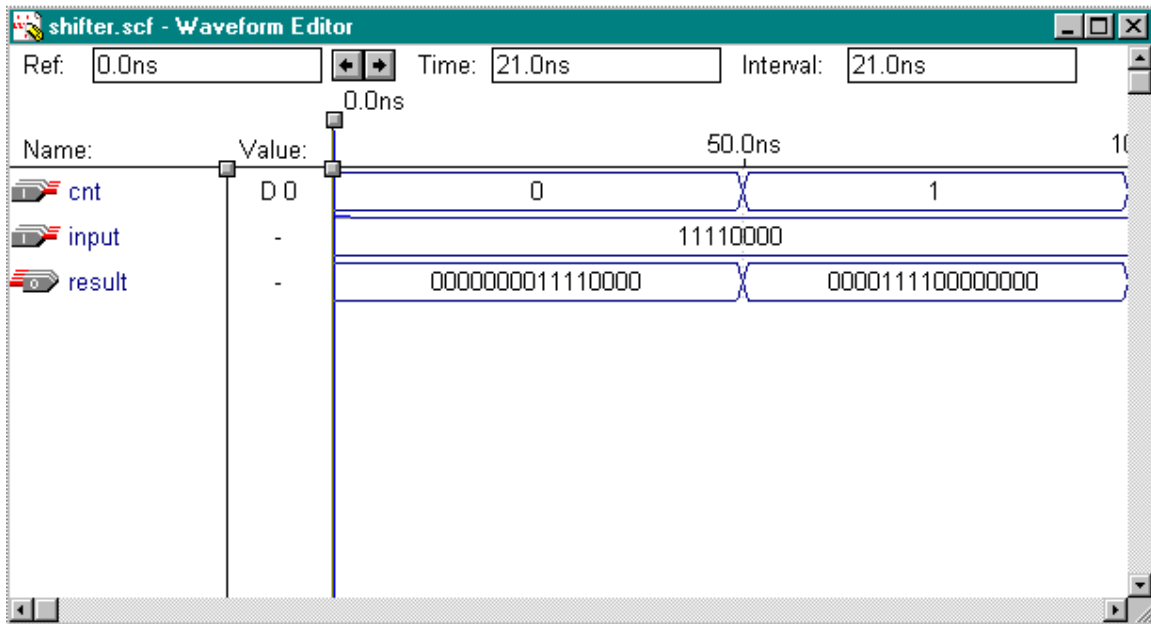

Figure 4-2.
5. Check to see if you get the same results shown in Figure 4-2.